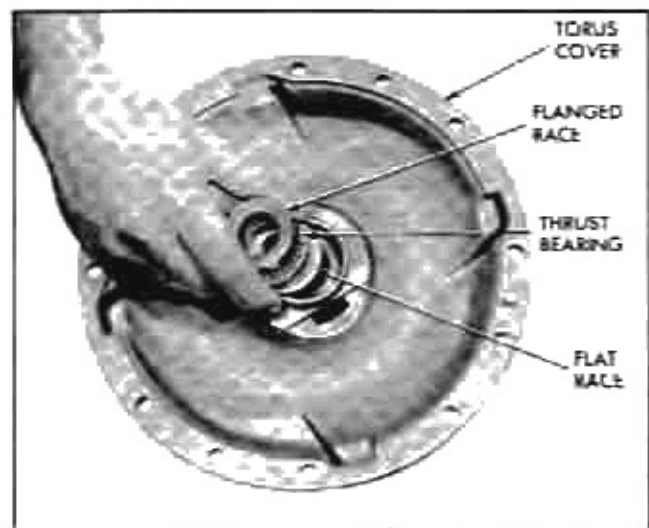

Fig. 122 Installing Thrust Bearing and Race in Torus Cover
13. Install flat bearing race into torus cover (Fig. 122).